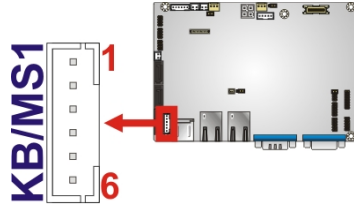

Figure 3-7: Keyboard/Mouse Connector Location
- CN Location:** See Figure 3-7